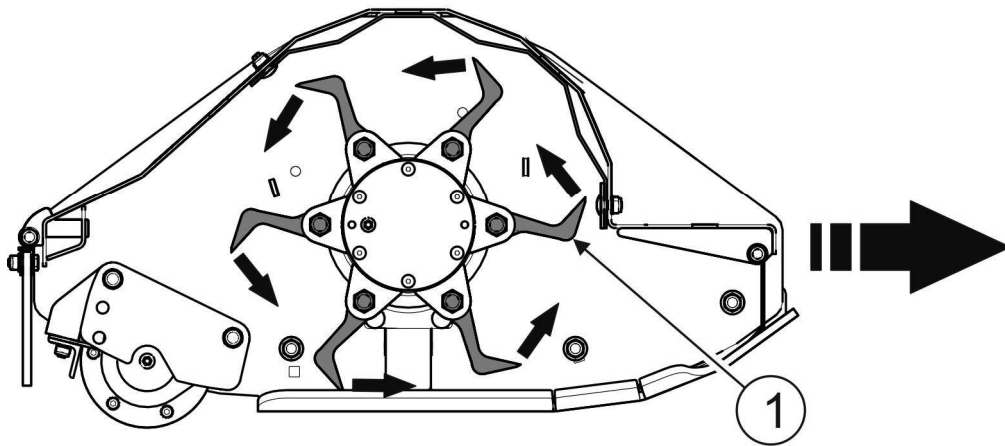

FIG. 4.1 **Rotation of cutting unit synchronised with direction of tractor travel.**
- synchronised rotation of cutting unit (FIGURE 4.1).